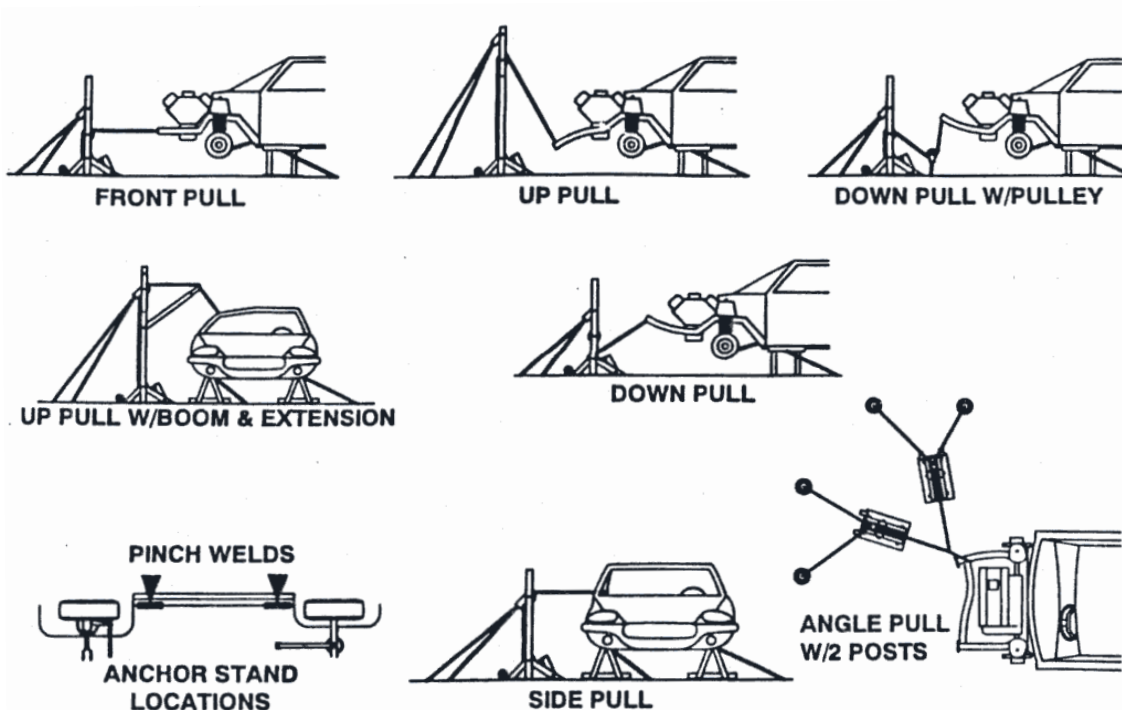

Figure 2 - Illustrations of different methods for pulling application
7. Figure 2 below shows illustrations of common applications.